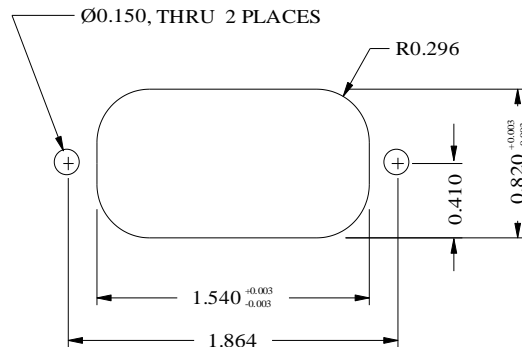

FIGURE 1. PANEL CABLE CONNECTOR MOUNTING HOLE
1.) The holes on the panel to be mounted should be pre-punched to the size as shown in Figure 1.